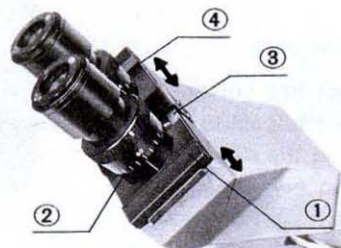

Fig. 6
1) Hold the knurled sliding grips ① of the right and left eyepiece tubes with both hands and push the tubes together or pull them apart laterally, whichever is required, while looking through the eyepieces with both eyes, until perfect binocular vision is obtained. (Fig. 6)
2) Rotate the tube length adjustment ring ② on the right eyepiece tube to match your interpupillary distance setting which you obtained from the scale ③.